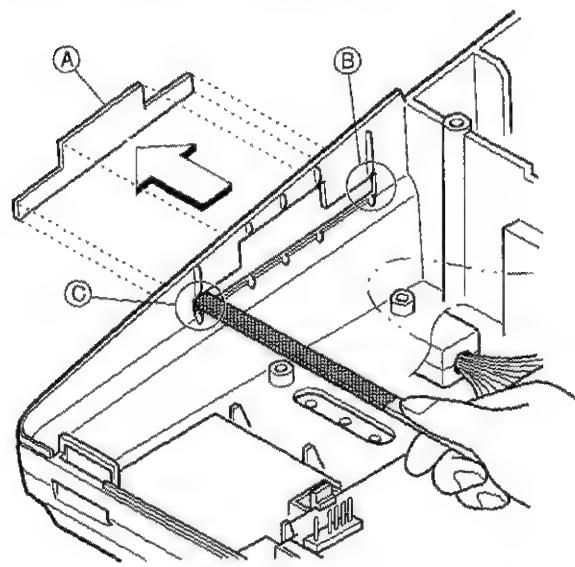

Fig. 1
- 2) Break open the knockout **A** of the lower cabinet with a tool and file it. Especially sections **B** and **C** must be filed deliberately because the bracket is in contact with them. (Fig. 1)